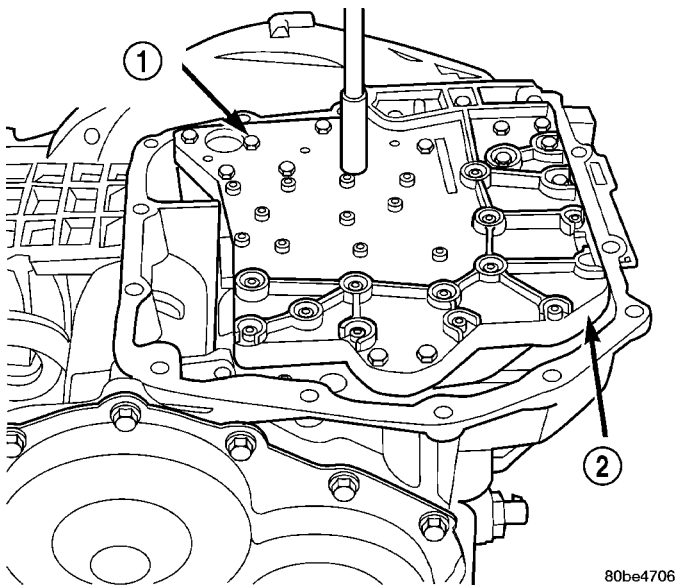

Fig. 314 Valve Body Attaching Bolts
(8) Remove the valve body-to-transaxle case bolts (Fig. 314).